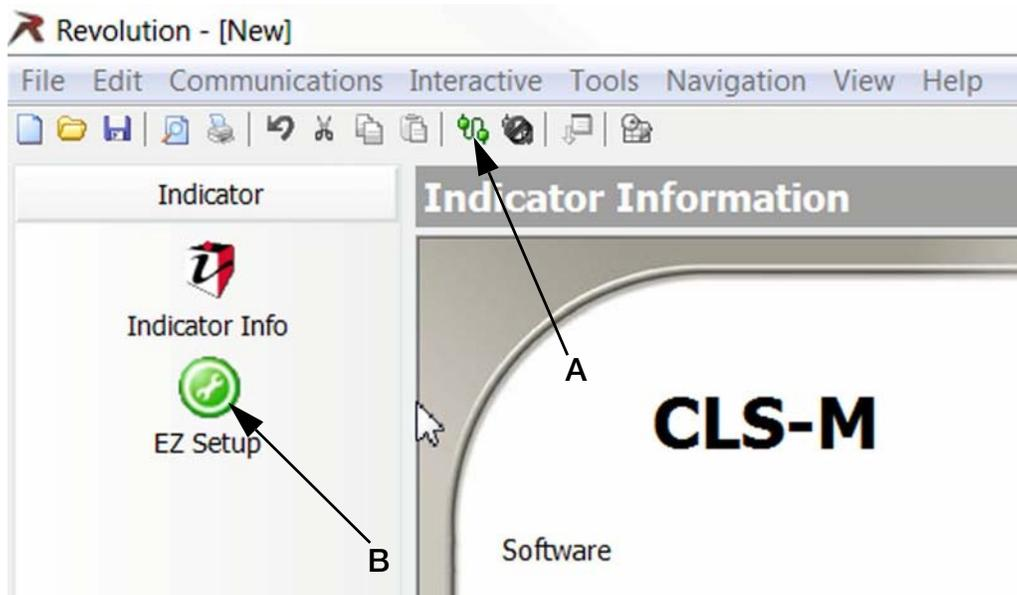
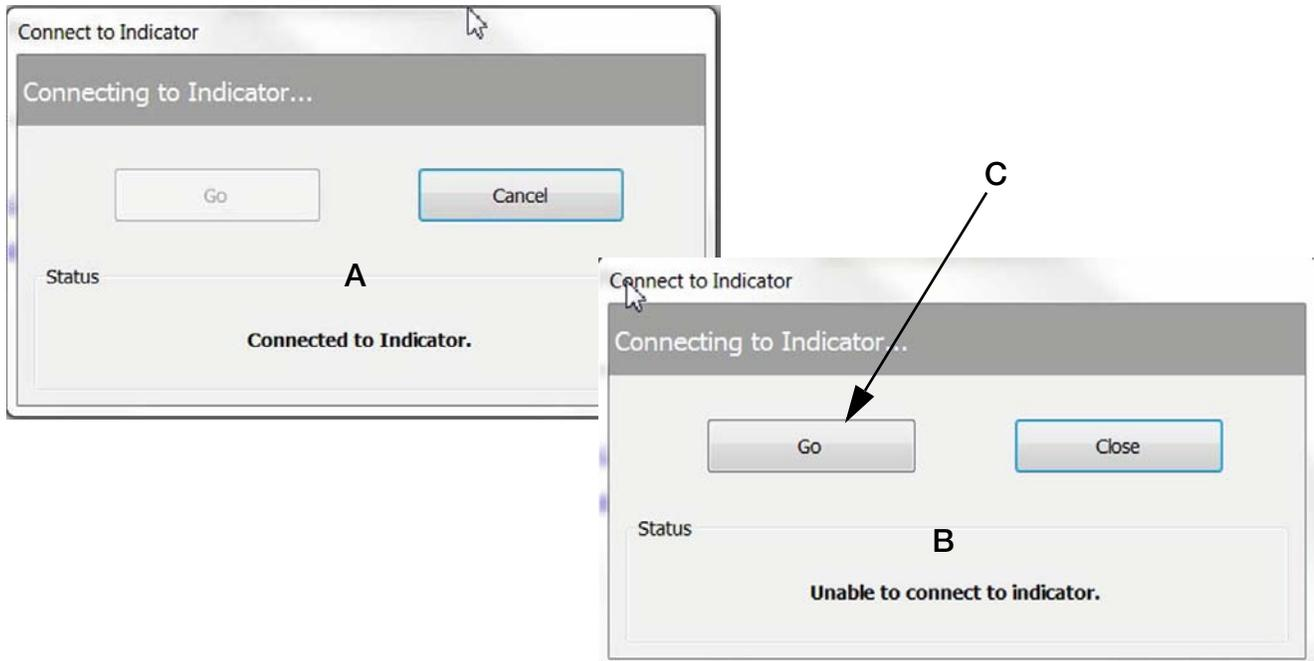

Figure 4-15. Connect Revolution to Power/Communication Box
Figure 4-16. Connection Success/Failure
9. Select the connect icon from toolbar (Fig 4-15 A). A pop-up box comes up momentarily (Figure 4-16 A) to indicate the computer is now indicated to the box.
10. If it comes up as *Unable to Connect to Indicator* (Figure 4-16 B) verify the Comm Port is correct and that the Power/Communication Box is turned on. Then select GO (Figure 4-16 C) to connect.
11. Press *EZ Setup* button (Fig 4-15 C).